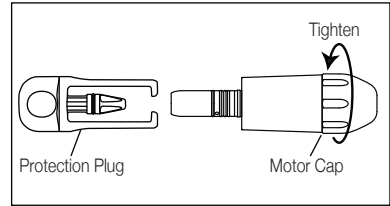

Fig.10
- 2) Detach the motor from the Motor Cord. (Refer to 4. (1) Connecting / disconnecting the Motor and the Motor Cord)
- 4) Screw the Motor Cap to the Motor. Put the Protection plug to the motor insert. (Fig. 10)